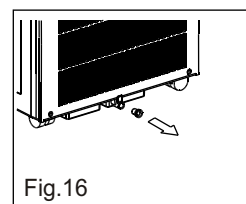

Fig.16
- When you plan to leave this unit unused for a long time, remove the bottom rubber plug from the back hole and attach a section of the continuous drain hose. All the water in the bottom tray would drain outside through the drain hose.(See Fig.16)